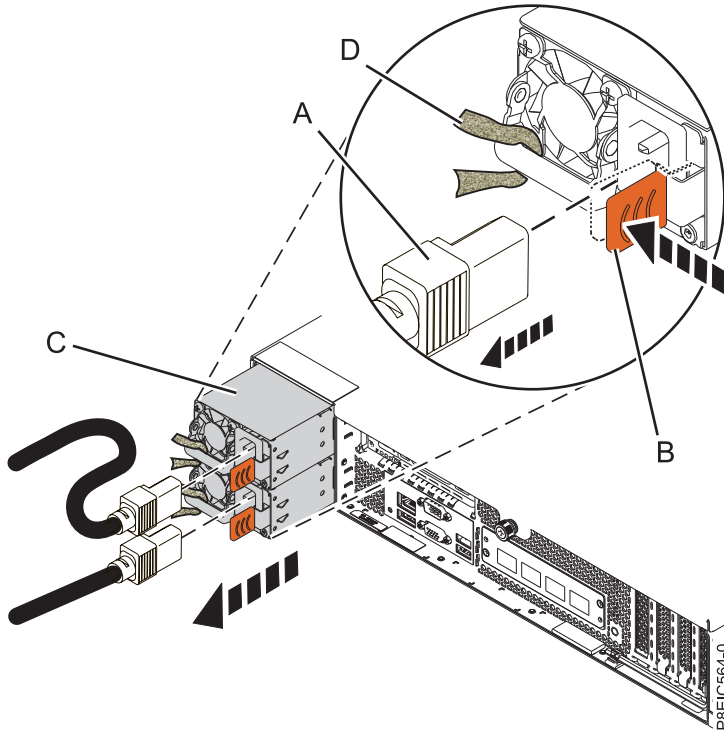

Figure 51. Removing a power supply from the system
- a. To unseat the power supply from its position in the system, push the locking-tab **(B)** in the direction shown. See Figure 51 on page 74.